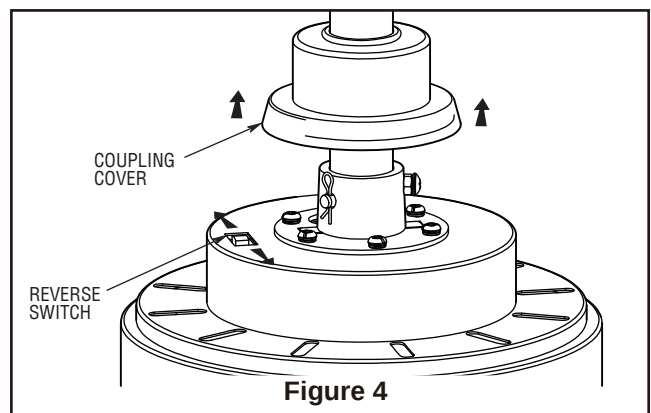

Figure 4
- ☐ 4. If airflow is desired in the opposite direction, turn the fan off and wait for the blades to stop turning. Slide the coupling cover up to expose the reverse switch. Then slide the reverse switch on top of motor assembly to the opposite position and turn fan on again (Figure 4).